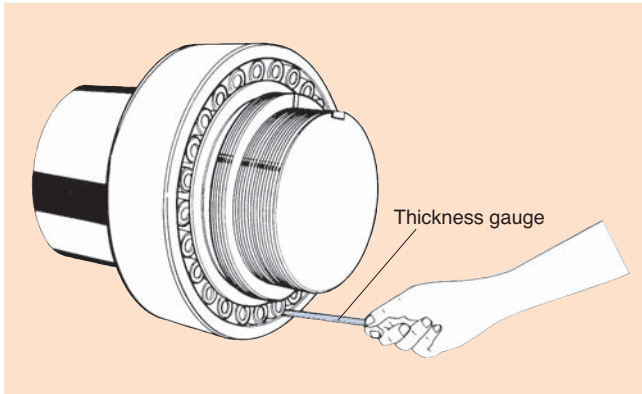

Fig. 29
(1) With the bearing moving free before installation (before fastening), measure the radial internal clearance with a thickness gauge (see Fig. 29). Measure the bearing clearance at three or more points around the bearing, and take the average value.